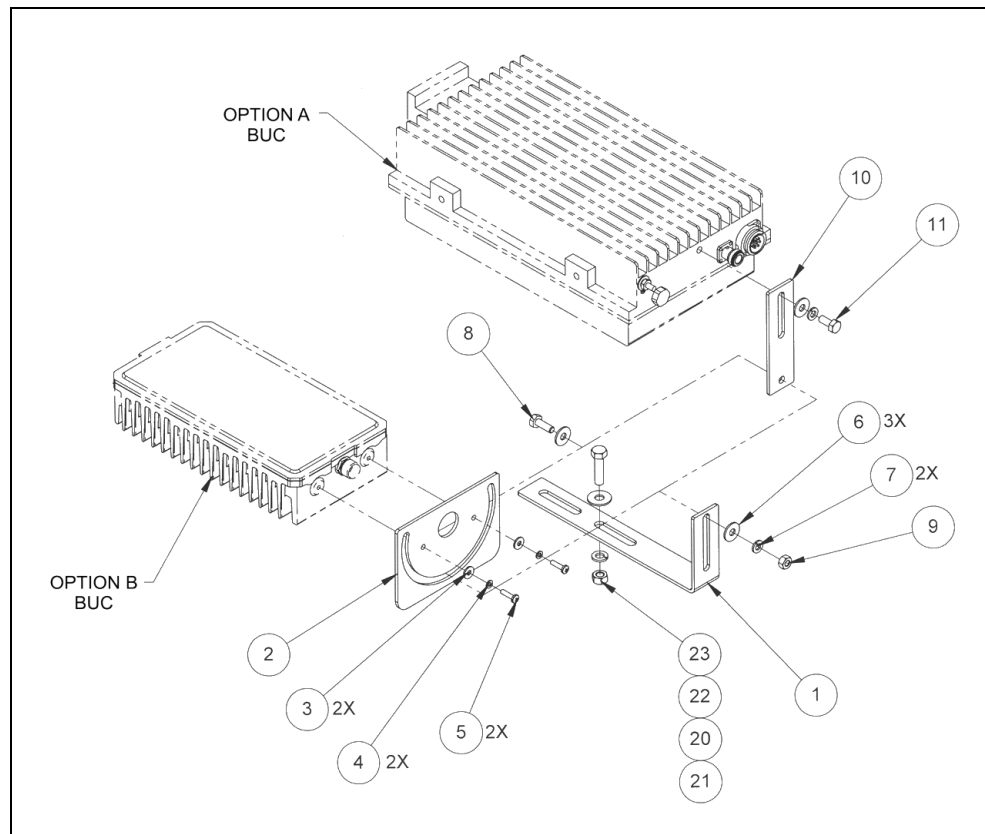

Figure 3-2. Mounting Kit, KT/9928-1
Refer to Figure 3-2.
- a. Install bracket (10, Figure 3-2) to BUC and secure with flat washer (6), split washer (7), and screw (11).
- b. Position universal lower 'L' bracket (1) to feed horn, loosely fasten with bolt (21), flat washer (20), lock washer (22), and nut (23).
- c. Align bracket (1) with bracket (10) to adjust the position of the BUC.
- d. Insert bolt (8) with flat washer (6) through bracket (1, 10) and secure with flat washer (6), split washer (7), and nut (9).
- a. Install bracket (2, Figure 3-2), to BUC and secure with two screws (5), two lock washer washers (4), two flat washers (3).
- c. Align bracket (1) with bracket (2) to adjust for position of the BUC.
- f. Insert bolt (8) with flat washer (6) through bracket (1, 10) and secure with flat washer (6), split washer (7), and nut (9).